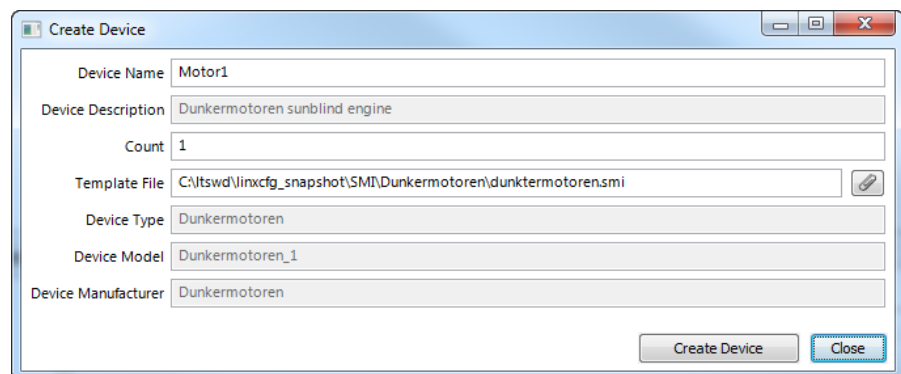

Figure 177: SMI device creation dialog
3. In the **Create Device** dialog enter a Device Name and a Count of devices to be created as shown in Figure 177.